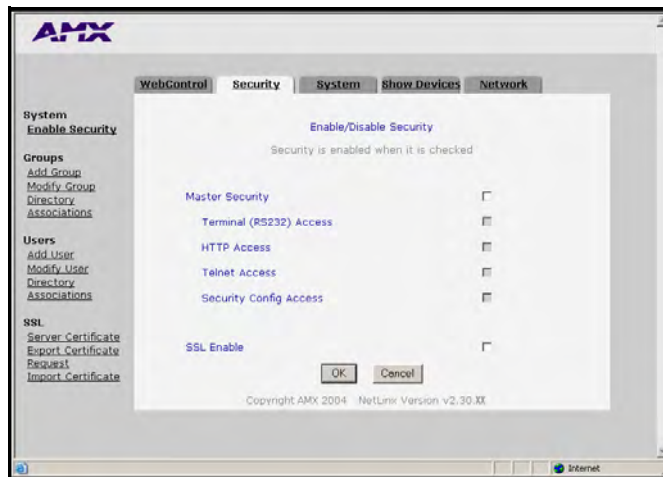

FIG. 48 Security tab - showing NetLinx Master security options
3. Click the **Enable Security** link (on the left of the browser window) to populate the Security tab with NetLinx Master security options (FIG. 48) that can individually be enabled or disabled.